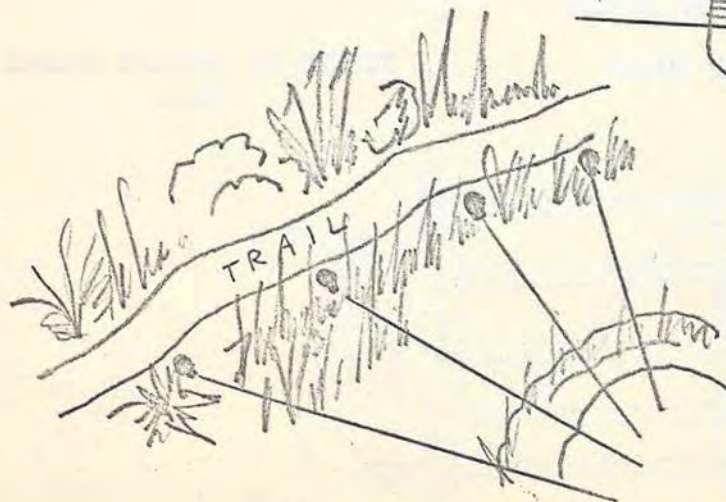

FIGURE 65. COMMAND DETONATED GRENADES
f. Command Detonated Grenades: In this situation the guerillas have tied a series of hand grenades to bushes, trees, or in grass clumps along trails or avenues of approach to their positions. The safety pins of the grenades are linked by fish cord or wire to an enemy position overlooking the site. When our patrols enter the killing zone of the grenade ambush site the one or two man team, by pulling the string or wire, can detonate one or any number of grenades without warning. (Figure 65),